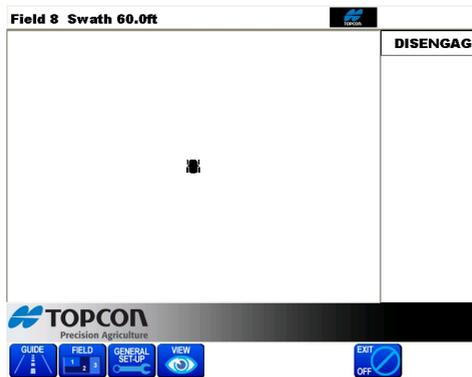

Figure 8-1. Guidance Screen
2. At the *X20 Product Selection* screen ensure “Guidance/Steer Assist” is selected. The *Guidance* screen will be displayed (Figure 8-1)
3. On the *Guidance* screen press the **EXIT/OFF** button (Figure 8-1)